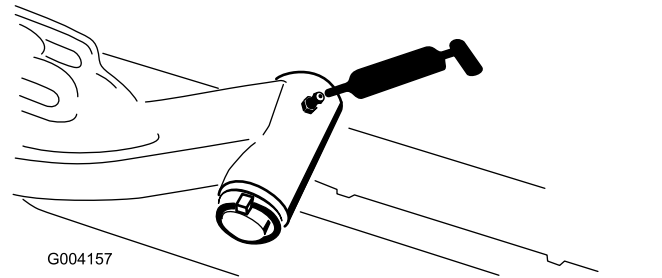

Figure 69
- Lift-arm pivot shaft (1 each) (Figure 69)